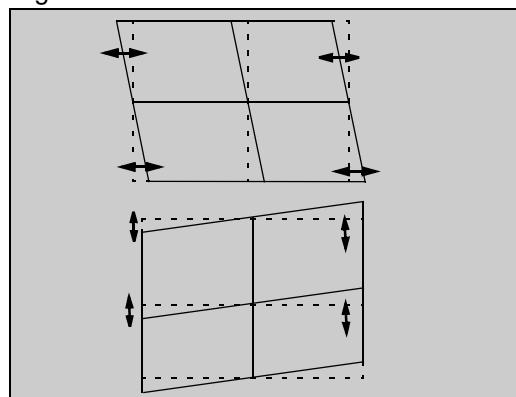

Figure 44. SKEW adjustment
- Adjust "R-SKEW" so that the vertical and horizontal line of center overlaps with green (See Figure 44)